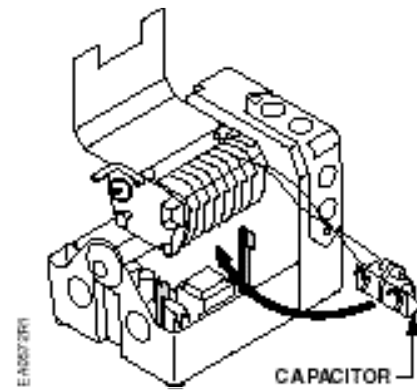

Figure 24.
5. Re-install the actuator motor capacitor. See Figure 24.